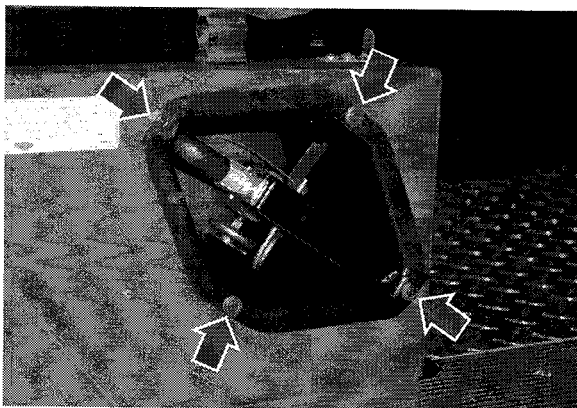

Figure 2, Fire Extinguisher
2. Remove the fire extinguisher from its container. (See Figure 2)
(See Figure 2)